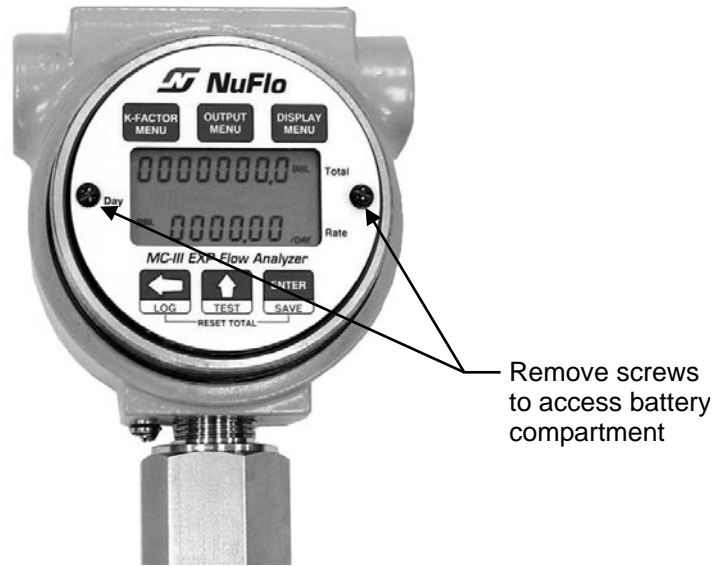

Figure 6.3—Removal of faceplate/keypad assembly
2. Using a small standard blade screwdriver, remove the two #4-40 × 7/8” screws located to the right and left side of the display (Figure 6.3, page 92).